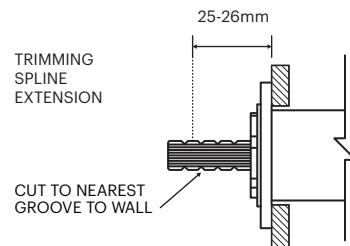

Fig 1
2. Trimming spline extension - Measure 25-26mm from the finished wall and cut through groove nearest to the wall. Refer to Fig 1.